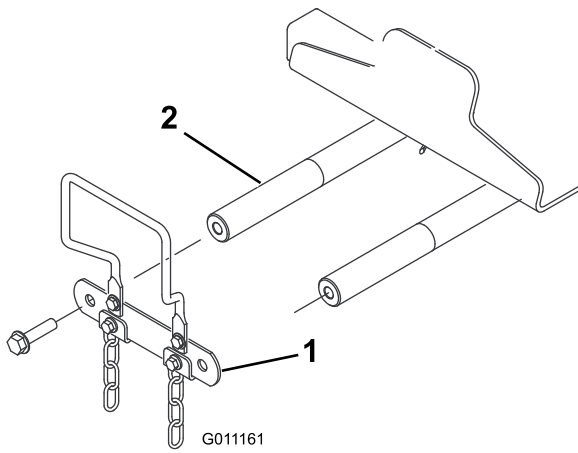

Figure 10
4. At the front of the machine, remove the 2 flange capscrews (1/2 x 2 inches) that secure the pivot-shaft link to the lift arm pivot shafts, and remove the link (Figure 10).